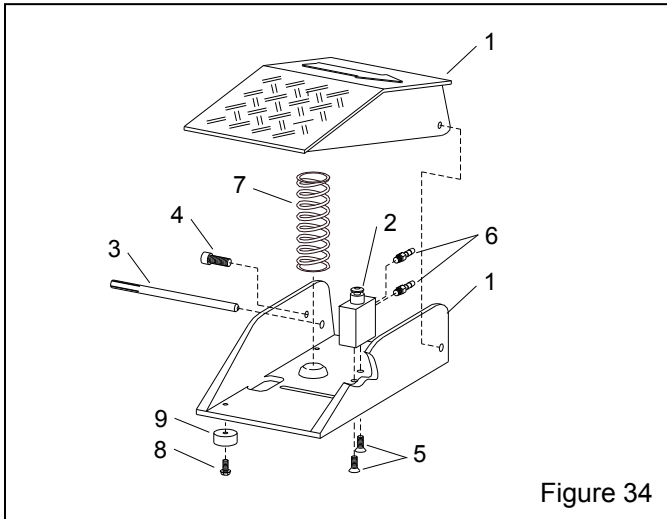

Figure 34
**9.6 Foot Pedal Assembly, Figure 34**